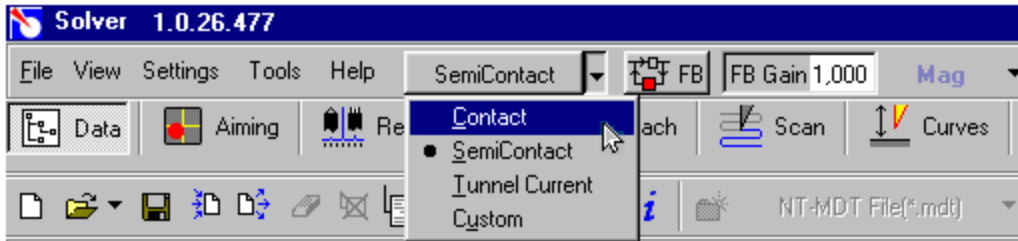

Fig. 3-2
- If this switch is set to **SemiContact** position, for example, as shown on Fig. 3-2, then select **Contact** in the menu that opens when the switch is pressed;